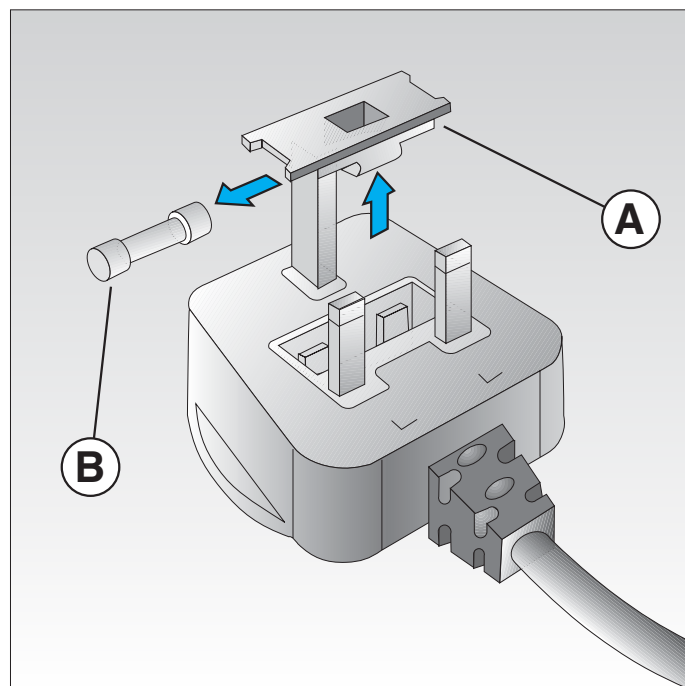

Fig.1A
1. Remove the fuse cover (A) and the fuse (Fig. 1A).
2. Fit a replacement fuse which should be a BS 1362 13A, A.S.T.A. item (B) Fig. 1A.